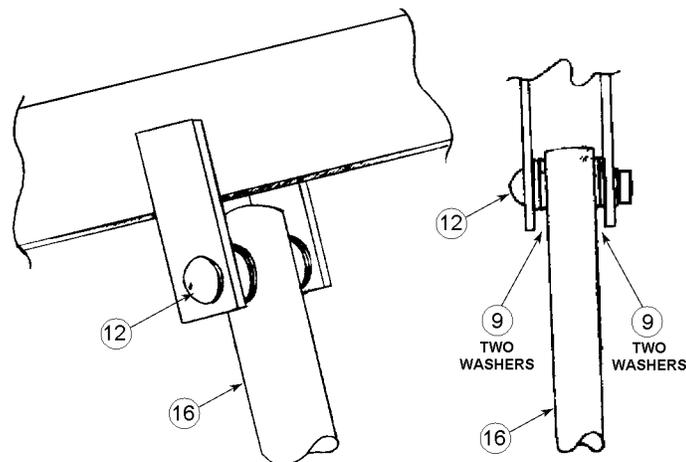

Figure 4
Step #5: Next, connect the cylinder (item 16) to the overhead assembly: Align ram eye with holes in boom clevis plates and insert a greased clevis pin (item 12) with four 5/8" washers (item 9). Tighten collar set screw onto pin. See figure 4.